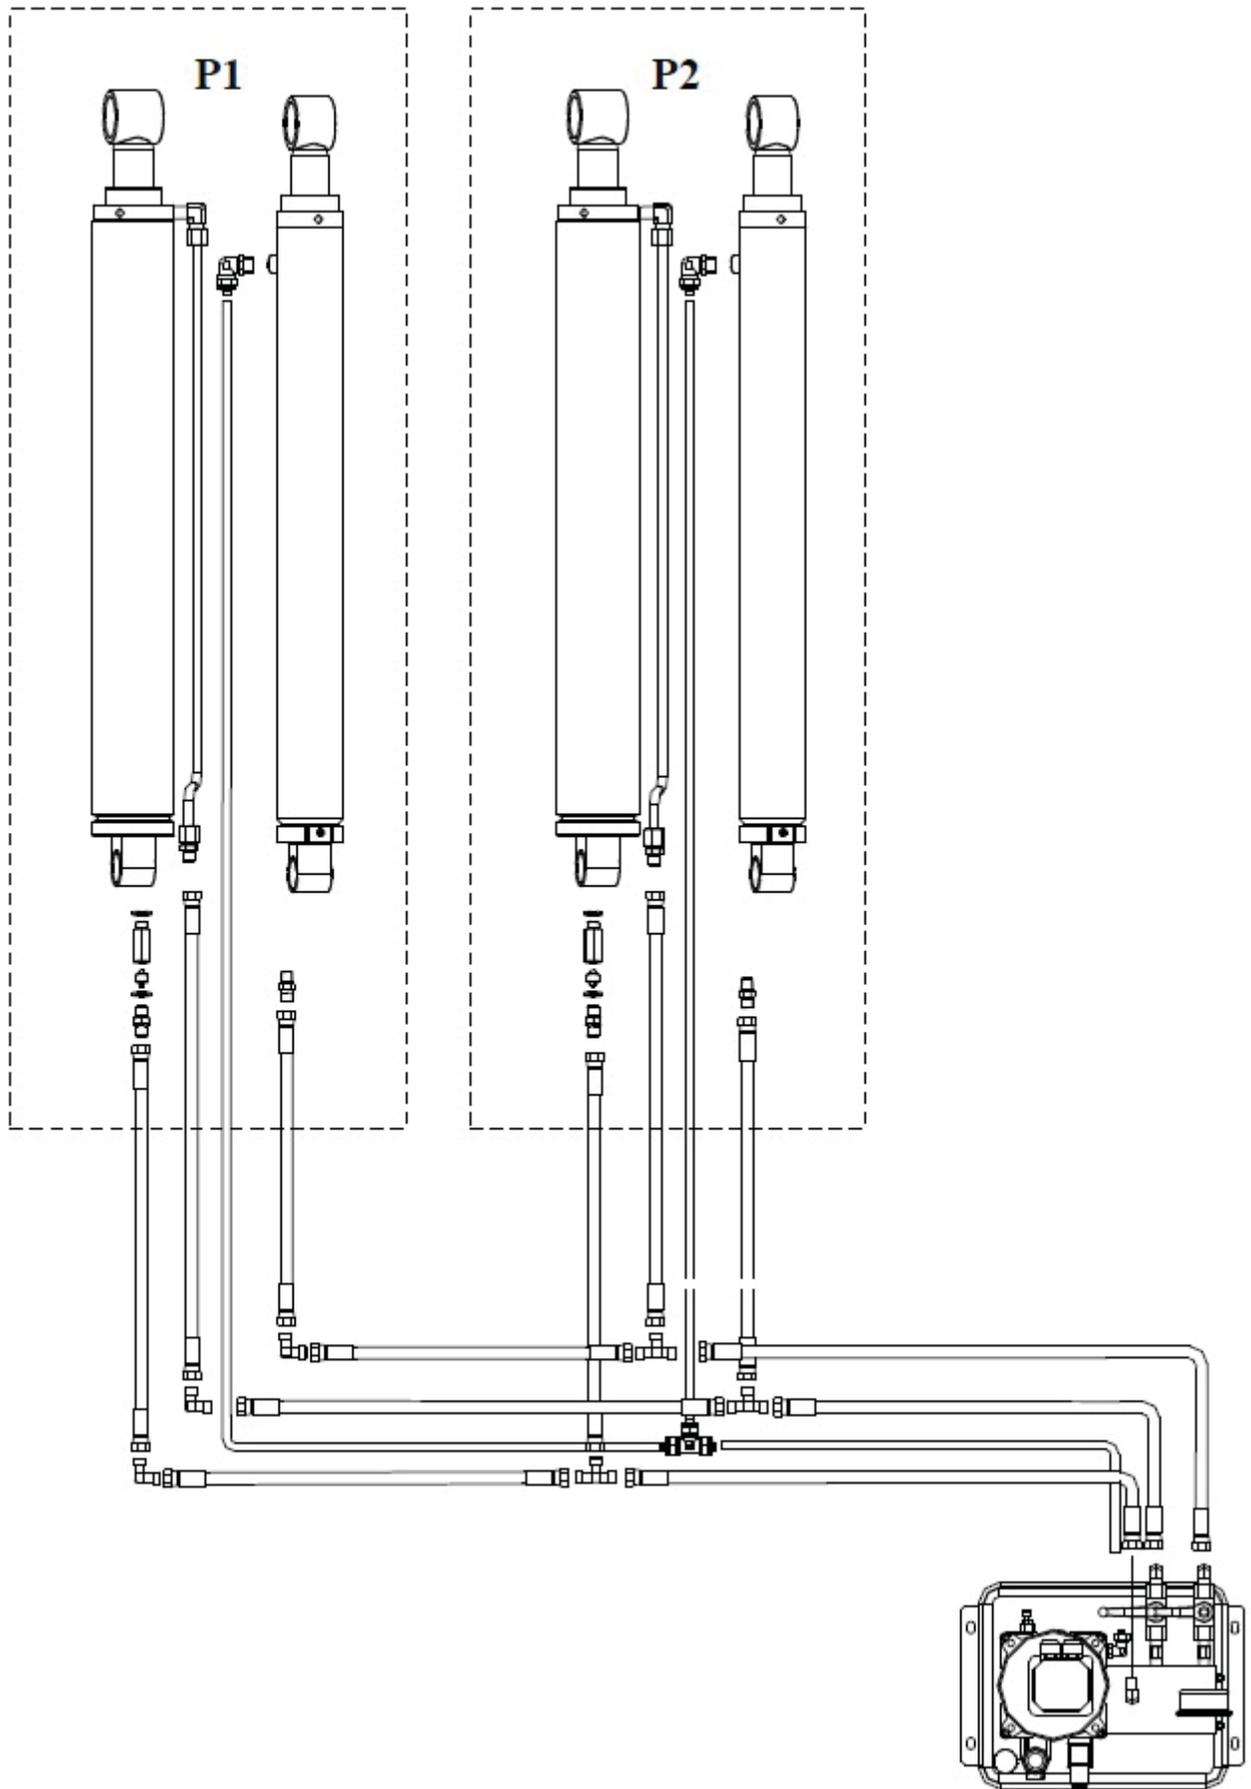

Figure 12 – Hydraulic Connection
## 7.5 Hydraulic System Connection (Ref. Fig. 12)
- Following Figure 12 connect hydraulic hose to the fittings referring to the letters shown on them.